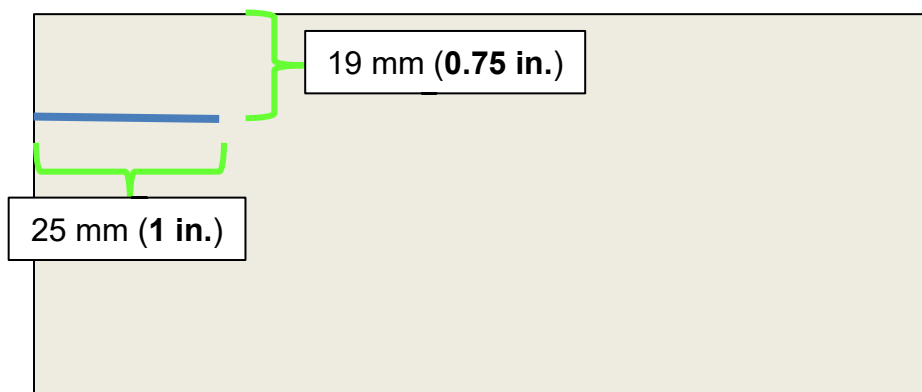

Figure 35
46. On the foil side of one (1) of the four (4) Butyl Patches, measure and mark a line, as shown in Figure 35, and then using scissors cut along the line.